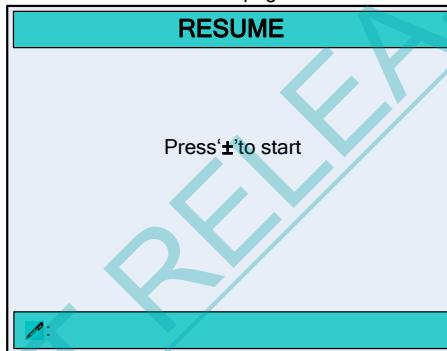

Figure 4-8 The **RESUME** page
On the **DIAGNOSE** page, move the cursor to parameter **7.RESTORE**. (or press the number key 7), and press to enter the **RESUME** page, as shown in Figure 4-8.